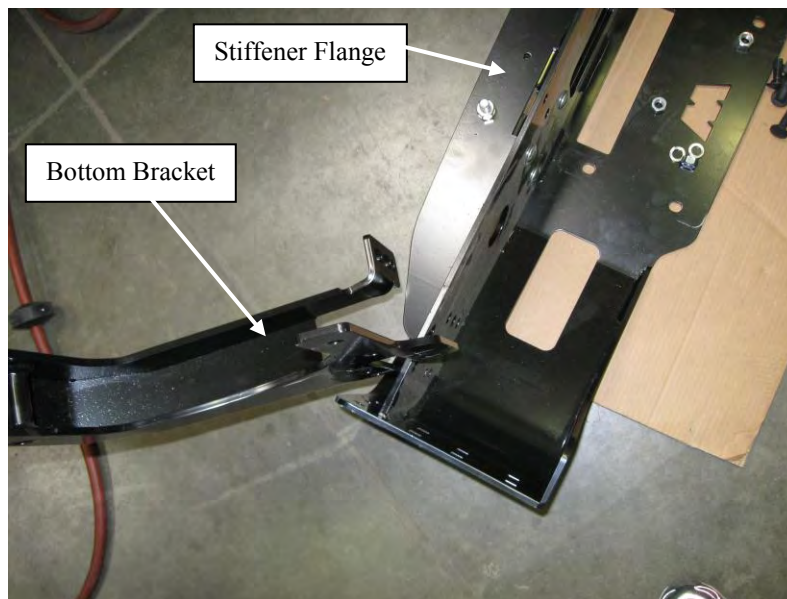
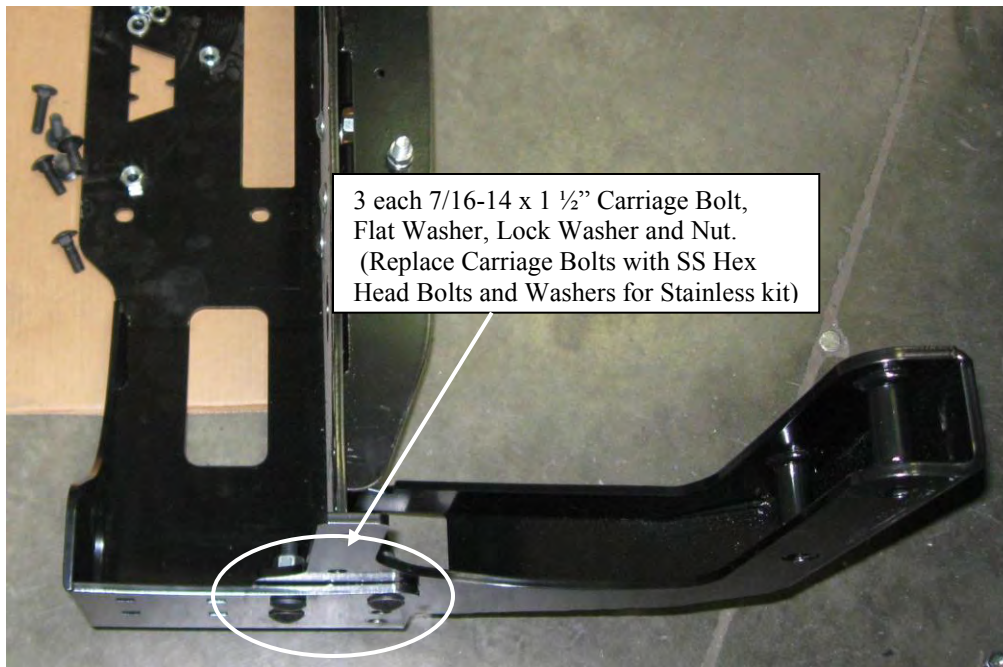

Figure 3: Large Frame Carrier: Install Bottom Bracket at an angle to get around Stiffener Flange.
Figure 4: Large Frame Carrier: Installed Bottom Bracket.
3. Install the bottom brackets onto the winch carrier as shown in figure 4. **Note: if installing a Large Frame Carrier, install the reinforcing bracket according to the instructions provided with the carrier.** On the large frame carriers it is necessary to install the bottom brackets at an angle to fit the bracket around the stiffener flange. **See figure 3.** Install 3 each 7/16-14 x 1 1/2" Carriage Bolt as shown in figure 4. If installing a stainless kit, use stainless hex head bolts and washers (provided in carrier hardware kit) in place of carriage bolts. Install a flat washer, lock washer, and nut on the bolt. Repeat for the opposite side. Do not tighten any hardware yet.